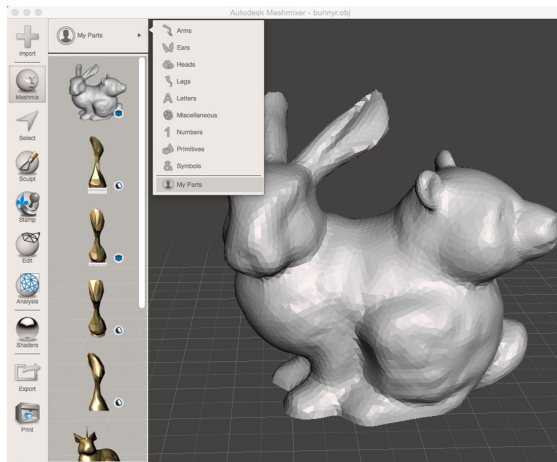

Figure 3-13 You can add the bear-butt bunny to your My Parts library for future reuse
4. Go to Meshmix and check in the My Parts folder (Figure 3-13).